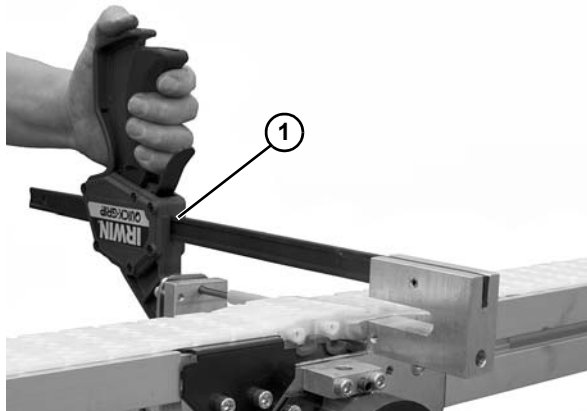

Figure 140
6. Use belt removal tool #203480 (Figure 140, item 1) or a punch and hammer to push the belt rod out by striking the rod end.